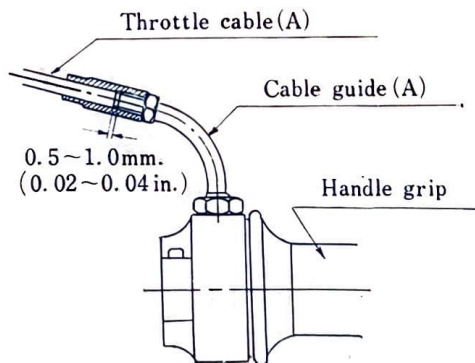

Fig. II-3-6
- b. The next adjustment is at the throttle grip. Loosen the lock nut and screw the adjuster in or out, whichever is necessary to get 0.5-1.0mm of free play at the cable end. (see Fig. II-3-6.)